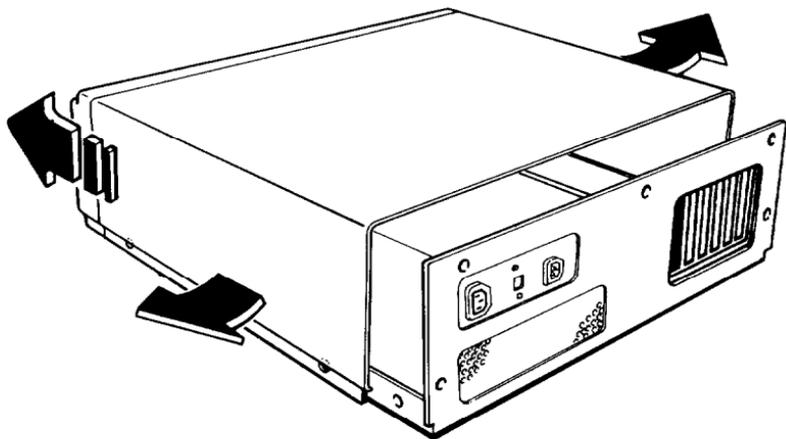

Figure 4-3. Remodeling the cover
4. You can separate the sides of the cover from the bottom ledge of the computer by pulling them outward slightly, as shown in Figure 4-3.